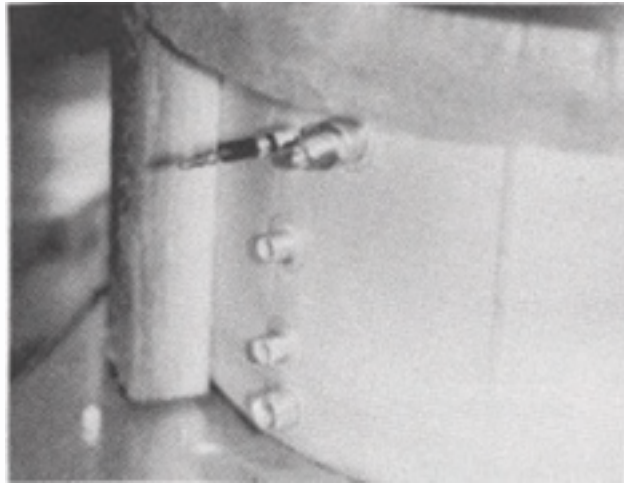

FIG. 2
11. Remove the two (2) nuts securing each of the three (3) heater holders to fryer. Save nuts and heater holders for reuse.
12. Using rubber mallet, tap heater ends forward on inside of cooking vessel allowing ferrule to be unseated from bushing on outside of vessel (See Figure 2).